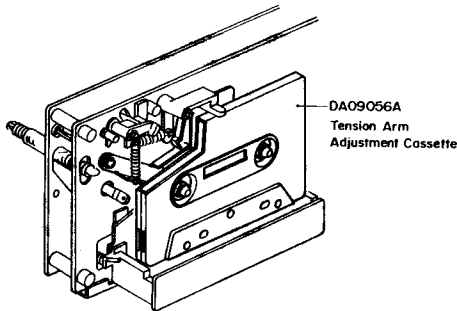
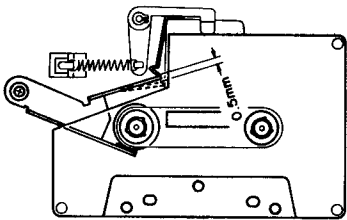

Fig. 2.10
Fig. 2.11
Refer to Figs. 2.10 – 2.13.
- (1) Load a Tension Arm Adjustment Cassette (DA09056A) in the cassette deck referring to Fig. 2.10.
- (2) Set the cassette deck in Play mode.
- (3) Bend the Back Tension Arm with pliers so that the gap between the Cassette Holding Spring assembled on the Head Base Ass'y and the Back Tension Arm becomes 0.5 mm as shown in Fig. 2.11. Do not bend the top of the Back Tension Arm.
- (4) Set the cassette deck in Stop mode, and remove the Tension Arm Adjustment Cassette (DA09056A), then set the cassette deck in Cue mode.